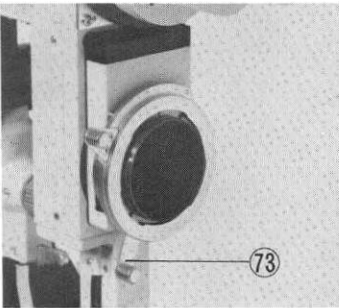

Fig. 72
- (b) Move the attachment fixing lever(73), on the bottom of the camera attachment mount(of the photographic attachment), to the left, insert the photographic attachment into the box frame opening below the binocular microscope and then move the fixing lever to the right, which will fix the attachment securely. (See Fig. 72)
(8) Attaching the Camera Body
- (a) Screw in the solenoid release (54) .